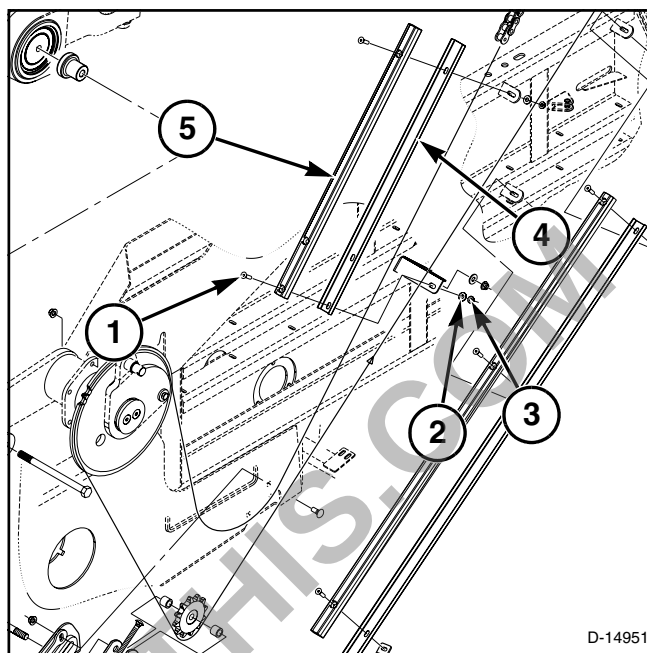

FIG. 26
FIG. 26: Remove the 3/8-16 x 1-1/2 in countersunk cap screw (1). Remove and keep the 3/8 in wide plain washer (2) and the 3/8-16 hex flange top lock nut (3) from the bottom end of the upper chain guide support (4) and chain guide (5).